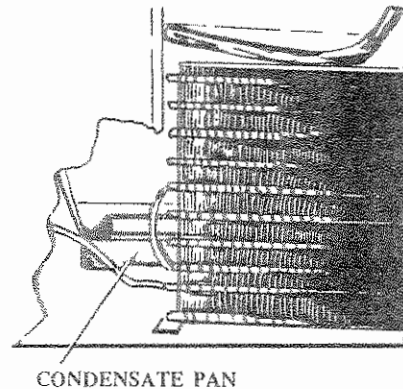

Figure 12
3. CONDENSATE PAN (See Figure 12)